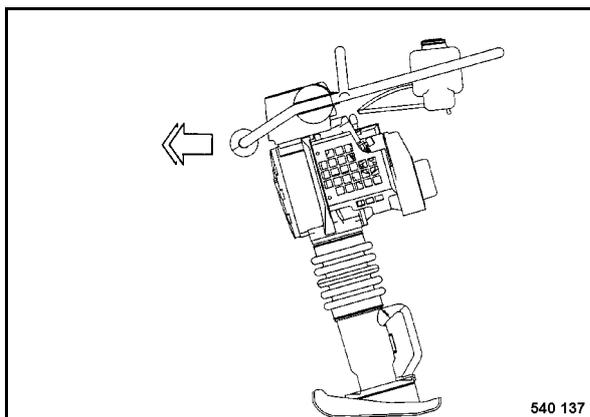

Fig. 21
- The travel speed can be influenced by altering the load on the steering handle (Fig. 21).